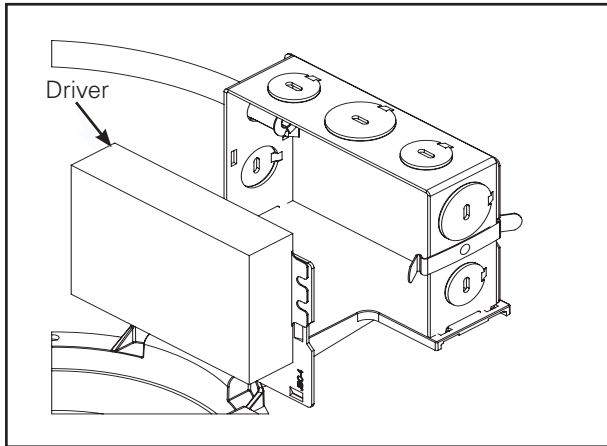

Figure 15
2. Remove the driver and junction box cover assembly. (Figure 15.).